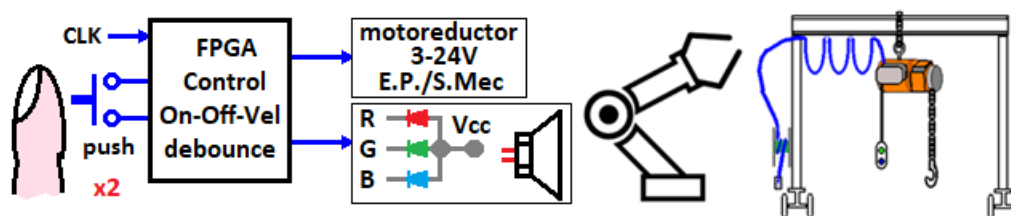

Figure 4.19. Diagrama del control on-off y velocidad con botón push y antirrebotes.
2. *Implement with the language requested by the teacher (VHDL or Verilog) (a) an on-off control (on-off) and (b) a S1-S2-S3-off speed control (low, medium, maximum and off), of two gearmotors (3-24 V) with a single push for each motor with load. In (a) if the button is pressed once, the motor must be turned on, if pressed once more, it will turn off. In (b) the motor is off, when the button is pressed, the motor is started at low speed, when pressing again it changes at medium speed, if it is pressed again it turns at maximum speed and if it is pressed again the motor is turned off, add an **RGB** led to indicate the speed changes, as well as two voice messages that indicates two states of the motors ("motor on", "maximum speed", etc.). It is necessary to put a mechanism or charge for each indent with reference to a celebration (day of the dead, Christmas, etc.) or any commercial, industrial, mining, automotive, etc. (see figure 4.19) This must be done with an debounce circuit programmed in the FPGA as well as with a power stage for the 2 gear motors. Report your debounce simulation, the code used (HDL & UCF) and include edited photos with explanatory text that show the result of switching on-off. **Note:** If the push button is mechanical, implement the debounce system to avoid the noise generated by the mechanical rebound. Both paragraphs are reviewed at the same time.*